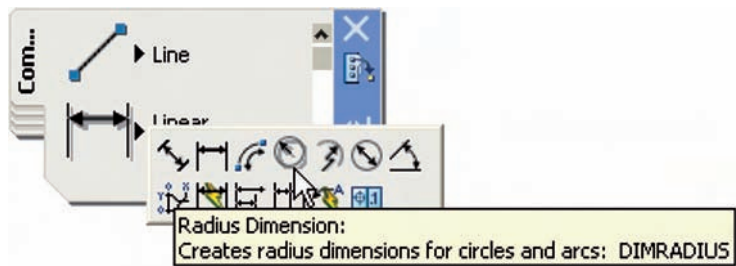

Fig. 6.7 The **Radius** dimension tool icon
2. *Left-click* the **Radius Dimension** (Fig. 6.7). The command line shows: